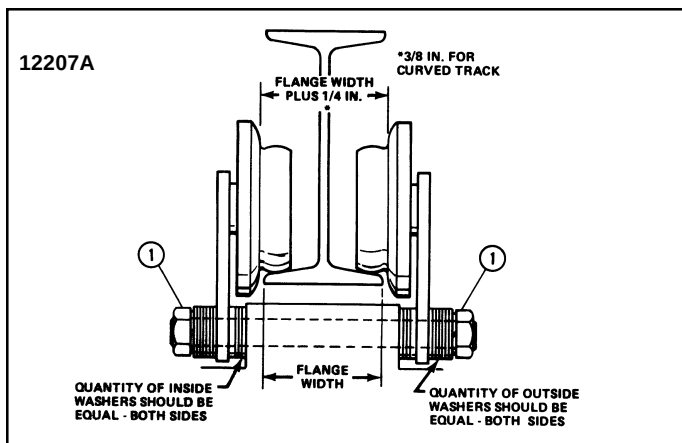

Figure 2. Proper Wheel Spacing
2. Determine proper spacing for trolley side plates so that adequate wheel clearance (approximately 1/8") is provided on both sides of I-beam, between inside faces of wheel flanges and edges of bottom beam flange. Proper spacing is obtained by varying the number of spacer washers (furnished with trolley) installed on suspension cross pins between suspension lug and trolley side plates (Figure 2).
a. First measure the exact width of bottom flange on runway beam, and then add 1/4" to that measurement (3/8" for curved beam). The total is the required distance between inside faces of wheel flanges to obtain satisfactory wheel operating clearance. See Figure 2.
e. When wheel spacing is correct, remaining spacer washers are to be installed on outside ends of suspension pins (see note below) and the pins then secured with lockwashers and hex nuts. The nuts (1, Figure 2) should not be completely tightened until after hoist and trolley are mounted on runway beam.
b. If trolley cannot be slid over end of beam, remove hex nuts (1, Figure 2), lockwashers and outer spacer washers from pins on one side of trolley. Spread or remove one side plate to facilitate positioning trolley over bottom flange of beam. Reinstall, side plate, outer spacer washers, lockwashers and hex nuts on suspension pins.
After trolley has been installed on beam, make sure suitable stop(s) is secured on open ended beams to prevent trolley from rolling off the beam. (Stops should contact trolley side plates, not wheels.) Make certain that all spacer washers and lockwashers are in place on suspension pins and that hex nuts are tight. Recheck clearance dimension between wheel flanges and beam flanges (Figure 2).